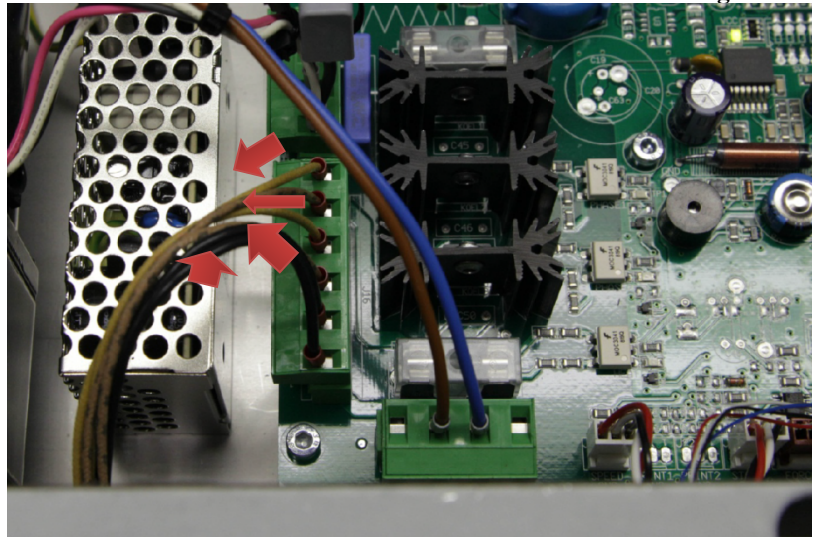

Figure 1
3. Disconnect the connector for the heater and clickson as show below. **Fig. 1**